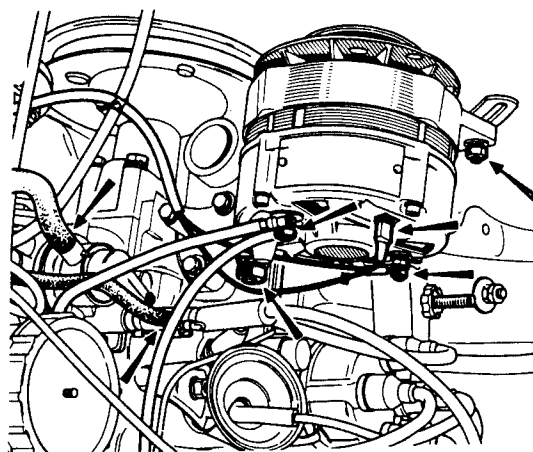

Fig.1.4 Alternator leads and adjustment strap bolt
- 13 Mark the electrical leads to the alternator for correct replacement and detach them, Fig.1.4.